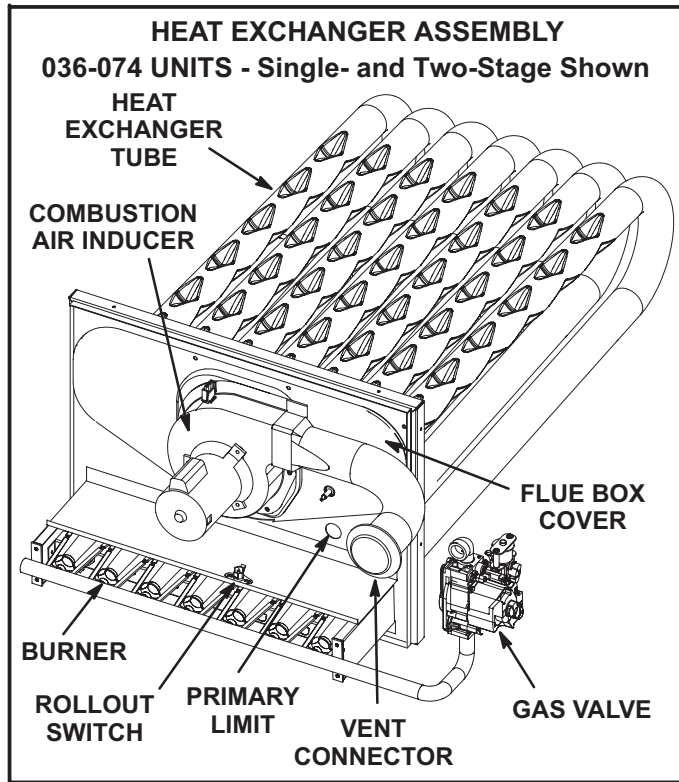
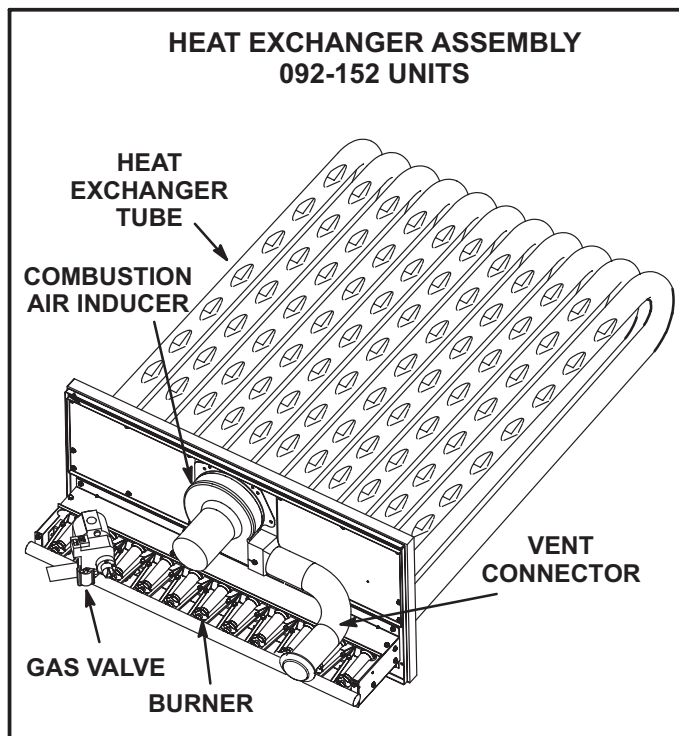
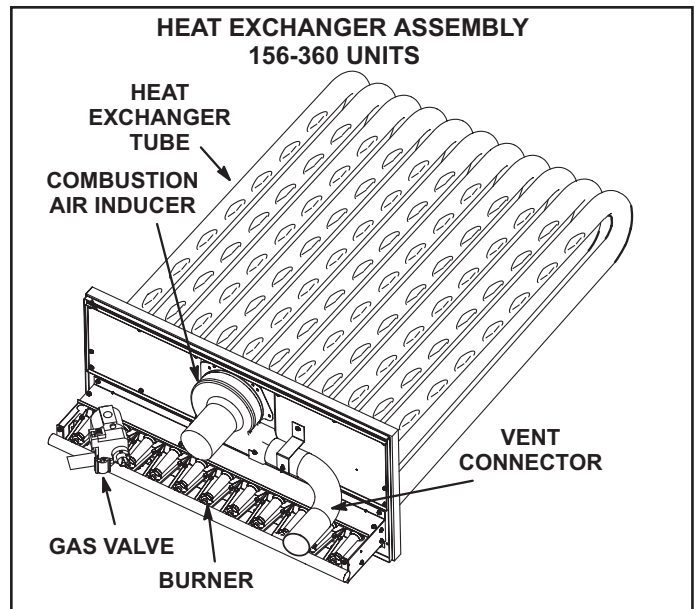
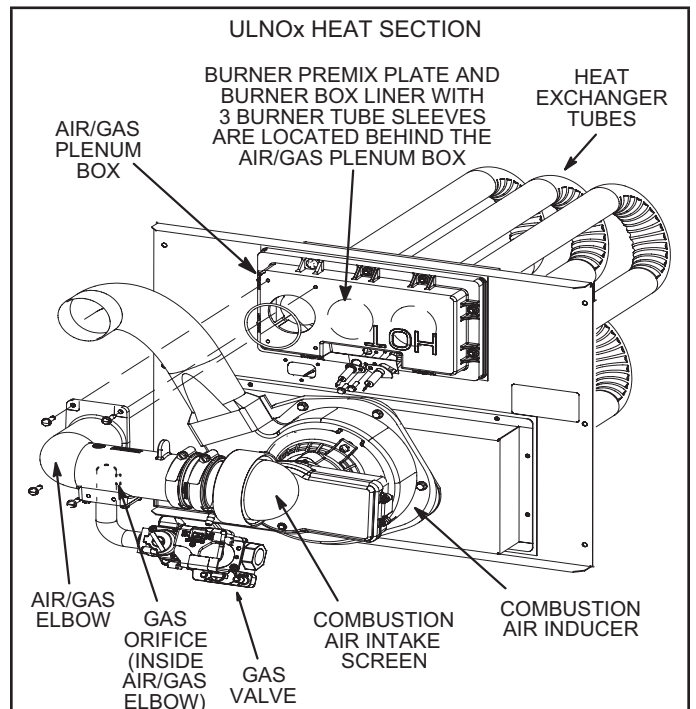

FIGURE 6
FIGURE 7
FIGURE 8
FIGURE 9
Units are not equipped with gas orifices that supply each burner. Instead, a single gas orifice supplies gas to the air/gas elbow. An intake air orifice supplies combustion air to the air/gas elbow. The combustion air blower draws the air/gas mixture from the air/gas elbow into the air/gas plenum box. When the spark ignites the gas, the ignition sensor proves the flame and combustion occurs in the burner premix plate. The burner box liner directs the flames into the burner tube sleeves. No examination or cleaning are required. See figure 9 and 10.
Annually, before heating season, inspect the combustion air louvers, vent cap, heat exchanger, burners (non-UL-NOx units only), and combustion air inducer for corrosion, deterioration or deposits of debris. Remove any obstructions or blockage. On UNLOx units, periodically clean lint or other debris from the combustion air intake screen. See Figure 6, Figure 7, Figure 8, or Figure 9.
- 5 - Remove and retain two screws from the bracket supporting the vent connector before removing vent connector. 024-152 units do not have a support bracket. See Figure 8.